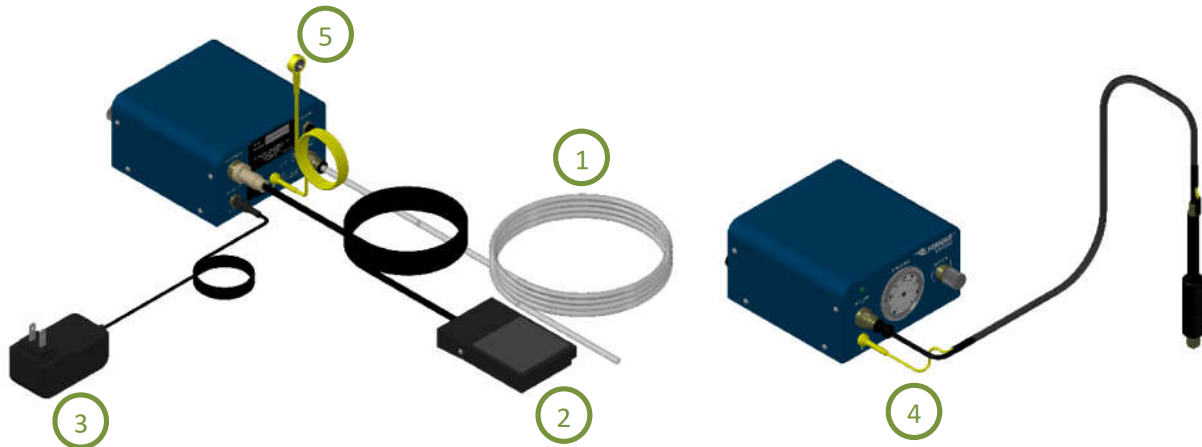

FIG. 4: Machine Setup
1.	Connect air hose (1) from compressed air 70-100 psi (5-7 bar) to the air inlet port on the back of the machine. See FIG. 4.
2.	Insert the Foot Pedal connector (2) to the port on the back of the machine. See FIG. 4.
3.	Attach appropriate country type plug adapter onto the power supply and then connect Electrical Power Cord (3) to the port on the back of the machine. See FIG. 4.
4.	<p>Insert the air connector and ESD grounding plug (4) from the vacuum pickup pen to the ports on the front of the machine. See FIG. 4.</p> <p>If using optional vacuum pickup pen (#580046NH) only the air connector will need to be attached to the port on the front of the machine.</p>
5.	<p>Insert the ESD grounding cable (5) into the port on the back of the machine. The other end of the cable is to be connected to a suitable common ESD Safe grounding point within the workplace environment. See FIG. 4.</p> <p>If there is no requirement for the machine to be used in an ESD Safe work environment, this step can be ignored.</p>